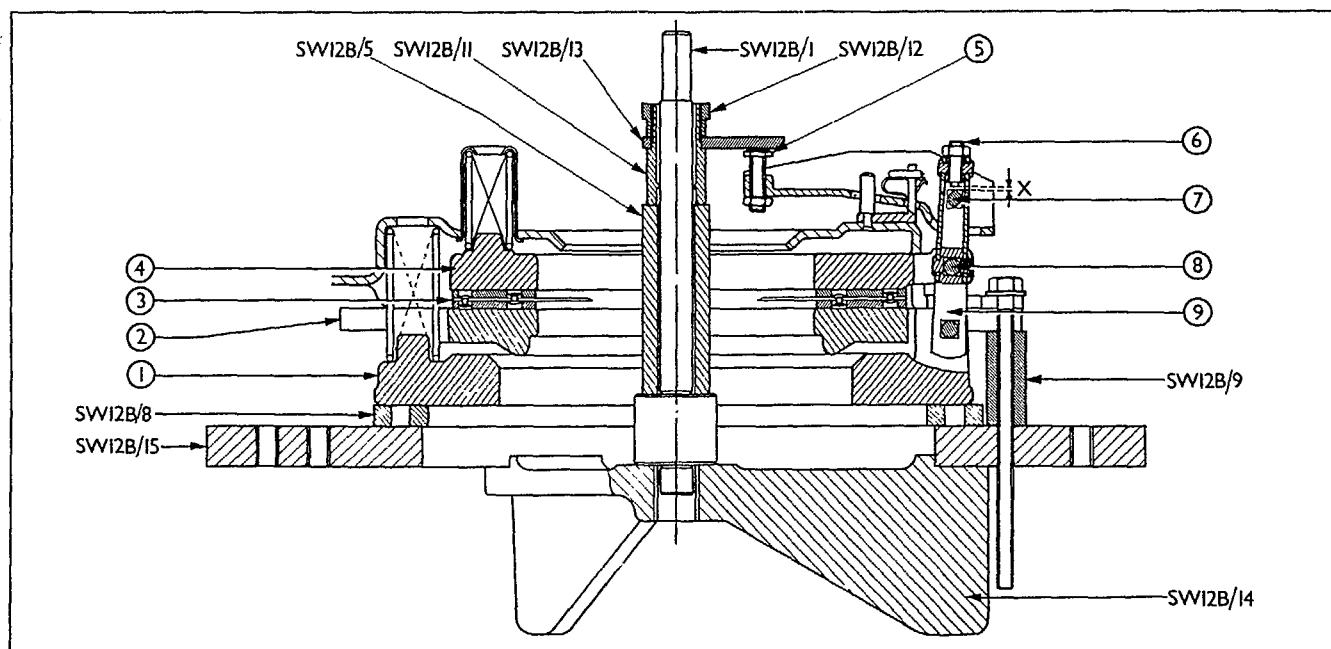

Figure 51
2. Using the base plate and bridge spider of Tool Number SW12B, position the three spacers SW12B/8 equidistant apart on the base plate SW12B/15. Locate the transmission pressure plate on the spacers, Figure 51, with the smooth surface of the plate facing downwards.
9. Insert riser spacers SW12B/9, Figure 51, between the intermediate pressure plate and the base of the tool, locating a riser spacer at each securing bolt hole. Pass special tool bolts SW12B/23 through cover, intermediate plate and riser spacers and screw them into the threaded holes provided in the base plate of the tool.
5. Remove the cam actuator and platform extension assembly and install pillar spacer SW12B/1 in the bridge spider SW12B/14. Locate centre spacer SW12B/5, finger body SW12B/11 and gauge finger SW12B/13 with the ground side of the finger facing downwards. Secure with tool locknut SW12B/12, Figure 51.
Rotate the gauge finger, SW12B/13, over each release lever adjusting screw in turn, adjusting each screw until it just touches the underside of the finger gauge, Figures 51 and 55. Tighten the adjusting screw locknut when adjustment is completed.
16. With the pressure plate connecting link held centrally and using the shank of a suitable sized drill as a gauge, set the gap, "X", Figure 51, between the lower end of each socket headed adjusting screw and the corres-